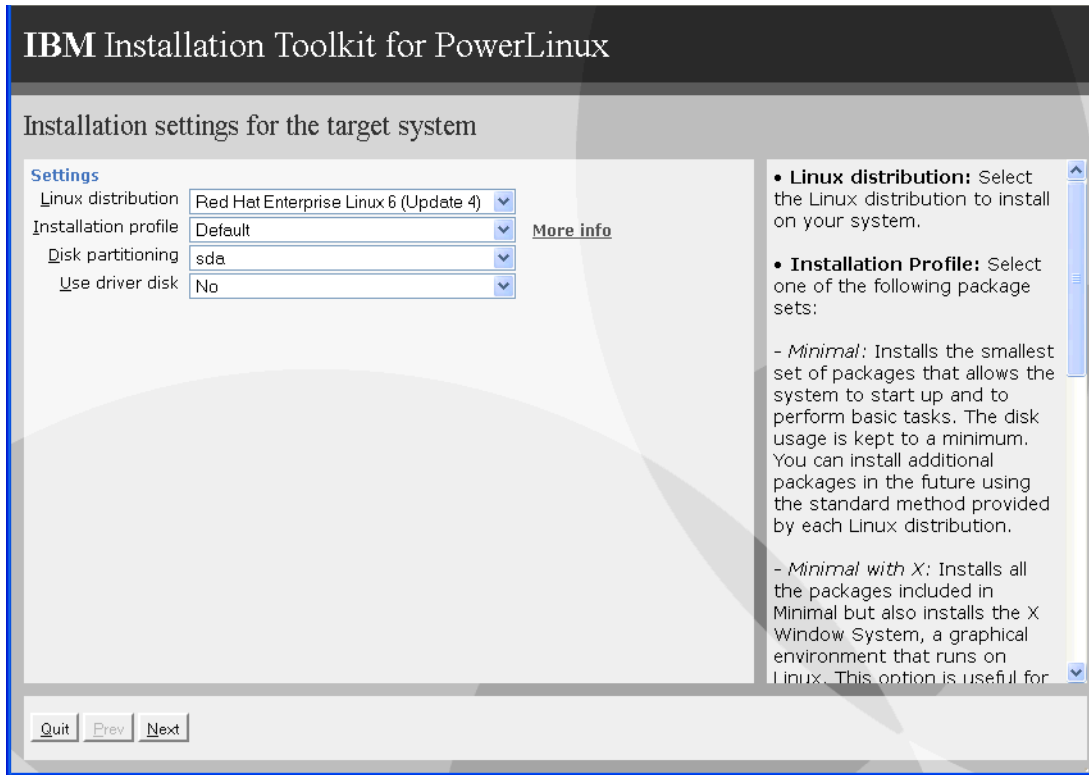

Figure 12-12 Installation settings for the target system
16. In Figure 12-12 on page 565, you must choose the software that you want to install. The following options are available in this panel:
- Automatic on a disk: Installs Linux on the chosen disk, which is conventionally partitioned. Any data that is contained in that specific disk is lost. In the example that is shown in Figure 12-12 on page 565, disk sda (the first and only virtual disk in the virtual server, the other disks are sdb, sdc, and so on ) is automatically partitioned by the IBM Linux Installation toolkit.